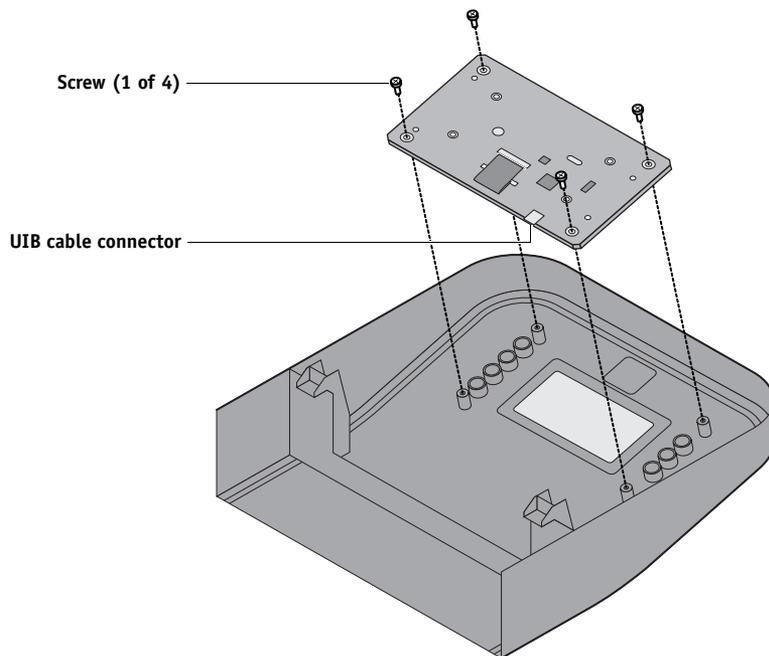

FIGURE 18: Removing/replacing the User Interface Board
2. **Attach the UIB cable to the connector on the back of the UIB (see Figure 18 on page 59).**